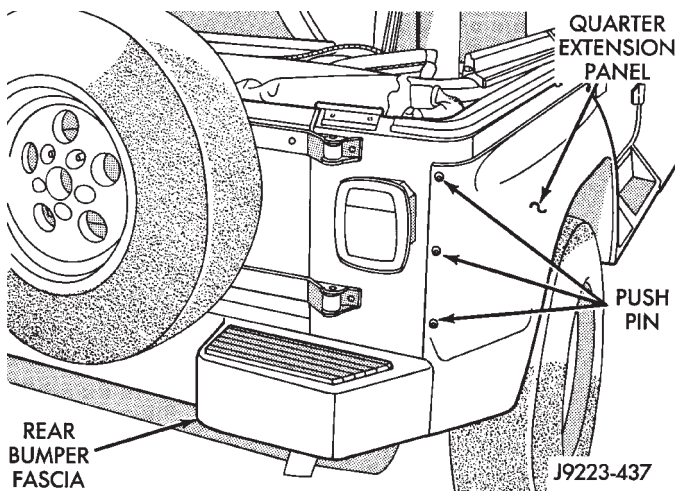

Fig. 57 Rear Quarter Extension Push Pins
(6) Remove the push pins that attach the extension panel to the quarter panel at the rear of the vehicle (Fig. 57).
(4) Install the push pins to attach the extension panel to the quarter panel at the rear of the vehicle (Fig. 57).
(5) If applicable, remove the support and lower the vehicle.
(6) Tighten the fascia support bracket:
(7) Install the rear bumper fascia. If necessary, refer to the installation procedure.